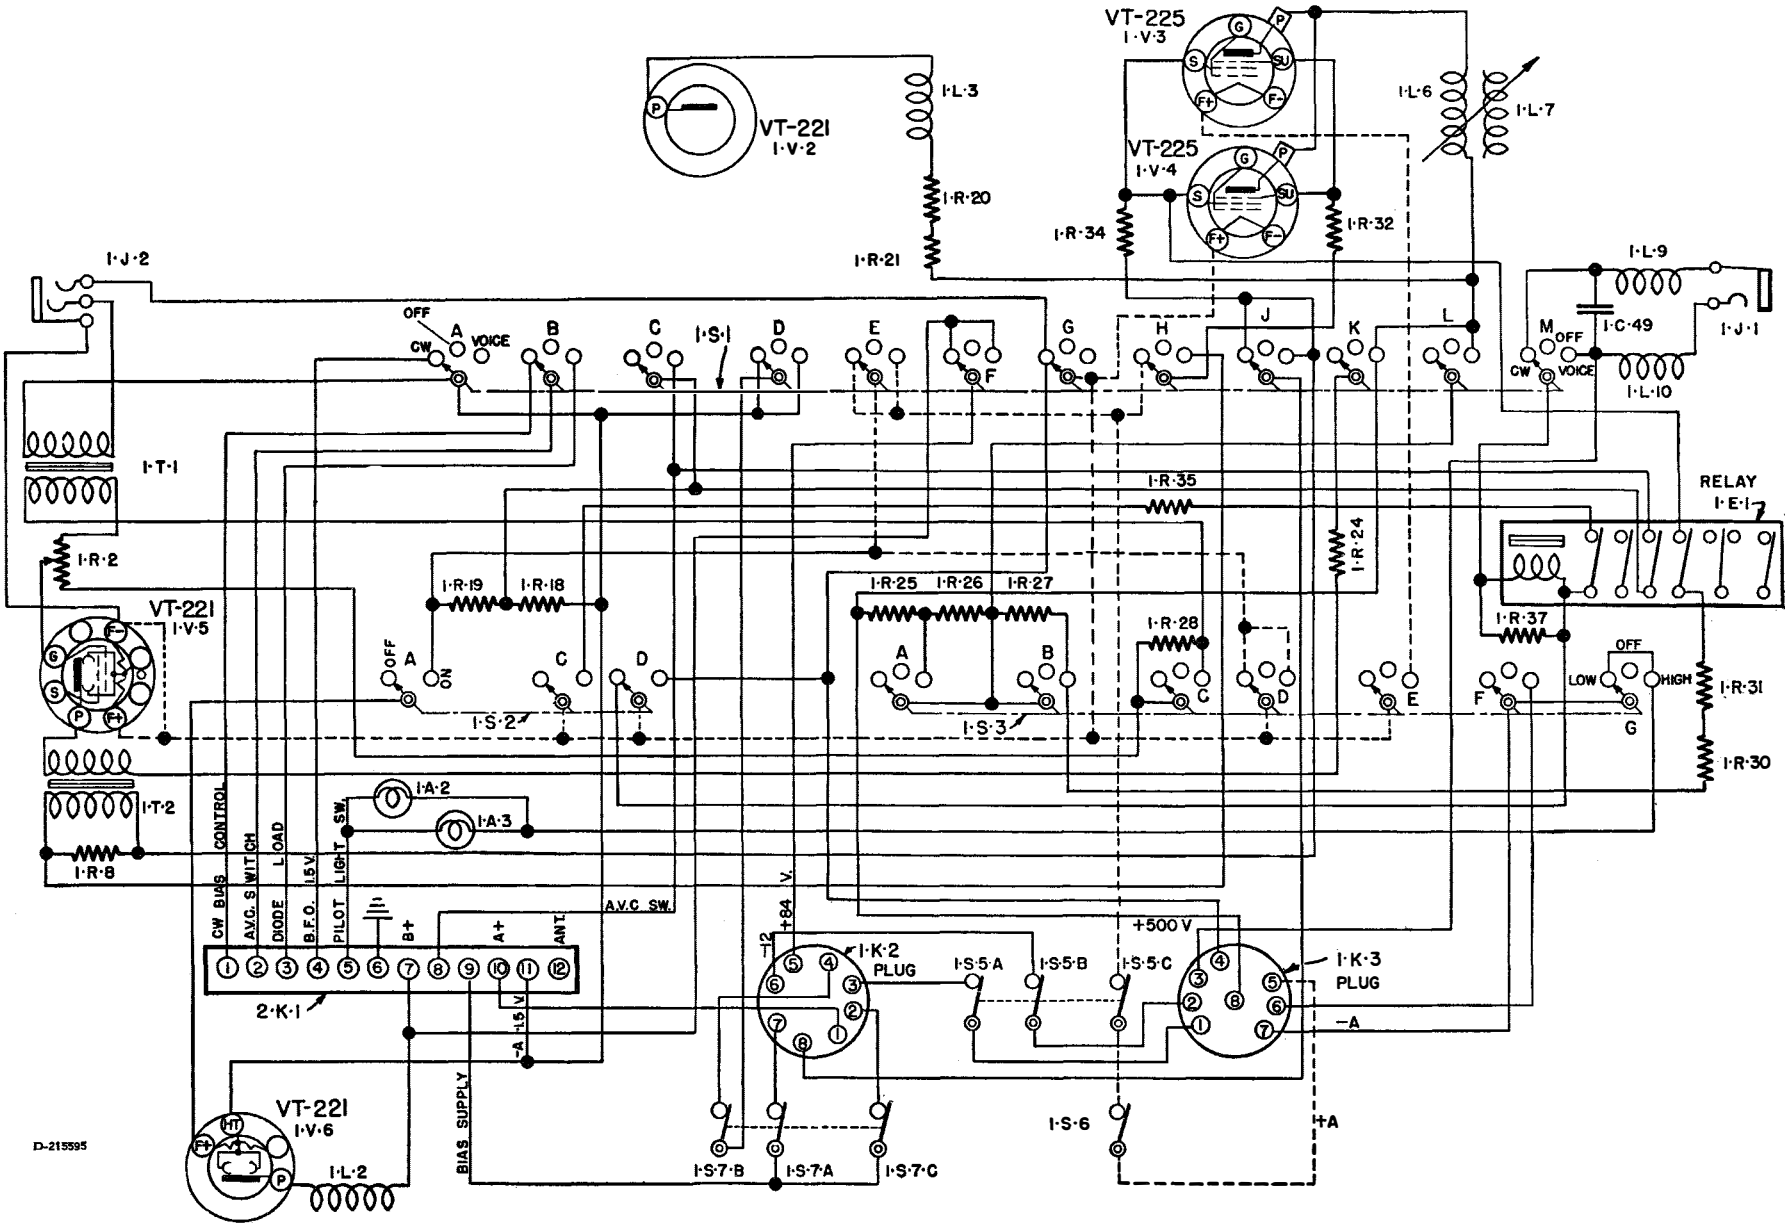

FIG. 17. MASTER CONTROL SWITCHING FOR CIRCUITS
c. Master Control Switching for Circuits:— (FIG. 17)
- (1) The multi-section switch (1-S-1) is used to select CW or VOICE operation, or to switch OFF, and is connected as follows: